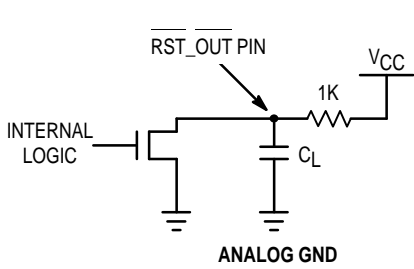

Figure 4. RST_OUT Test Circuit
- The $\overline{RST_OUT}$ pin is an open drain N-Channel output. Therefore an external pull-up resistor must be provide to pull up the $\overline{RST_OUT}$ pin when it goes into the high impedance state (after the MC88916 is phase-locked to the reference input with $\overline{RST_IN}$ held high or 1024 'Q' cycles after the $\overline{RST_IN}$ pin goes high when the part is locked). In the t_{PLZ} and t_{PZL} specifications, a 1K Ω resistor is used as a pull-up as shown in Figure 4.